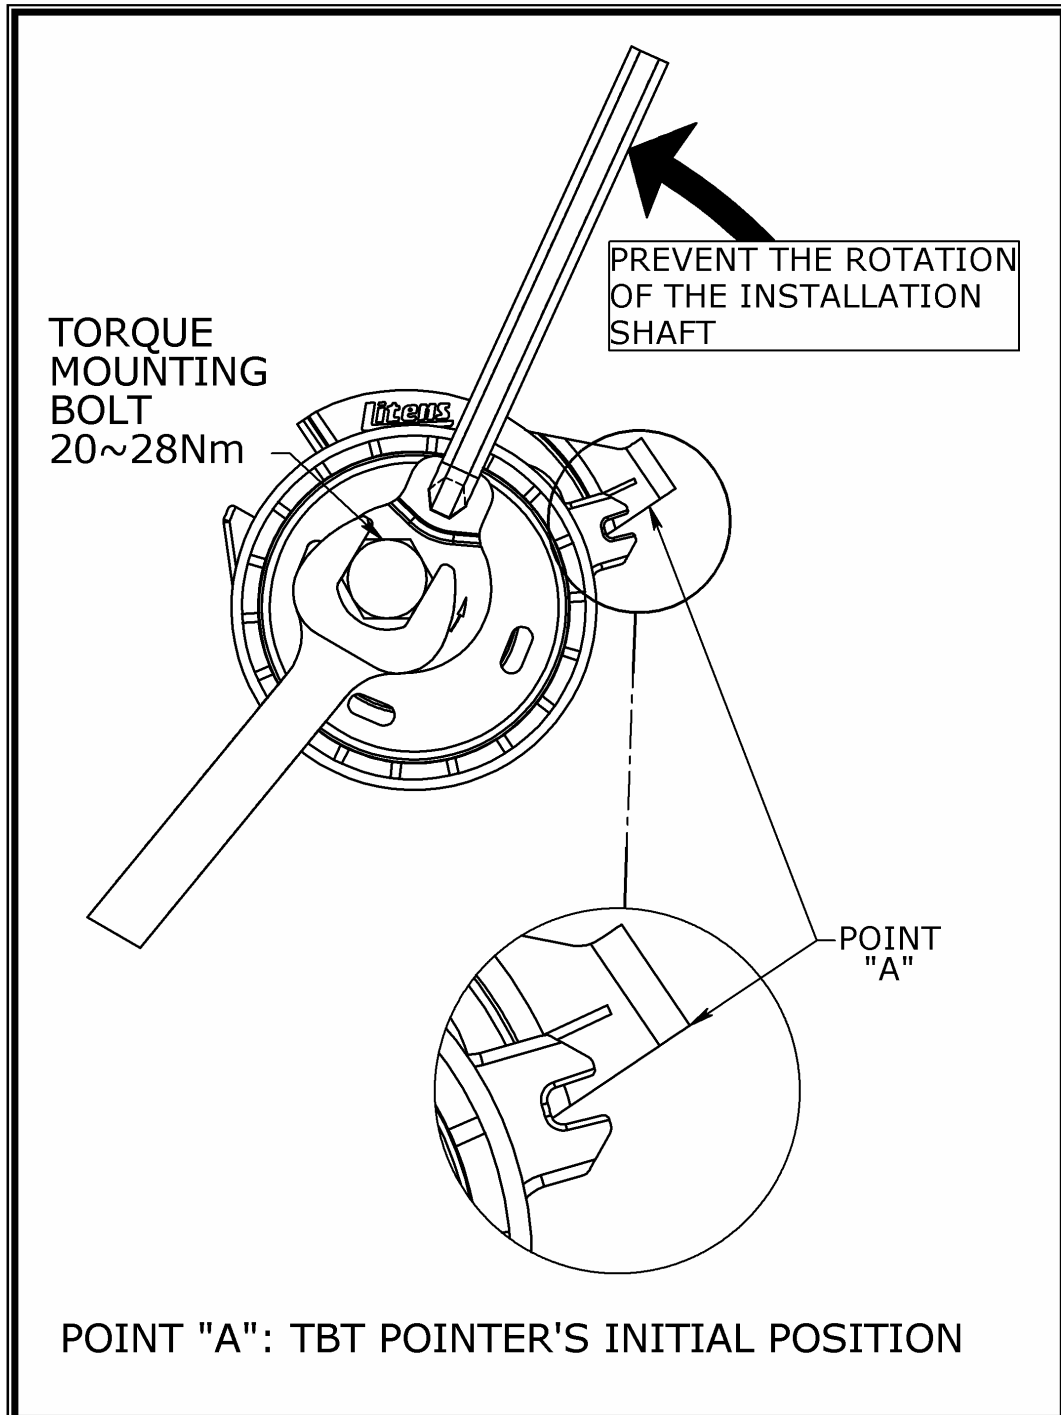

Figure 5: Initial Over Tension of the TBT alignment of the Arm Pointer to Point "A"
9. Continue rotating the Installation Shaft until the Arm Pointer aligns with **Point A** of the base plate (see Fig 5). Lock the tensioner in this position by torquing the mounting bolt to **20~28Nm**.